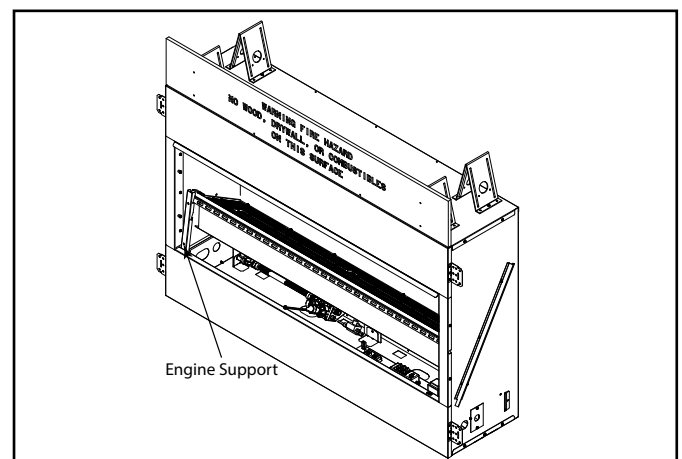

Figure 3.6 Control Cavity Location (Cut away front view only for location purpose, no direct access from front)
The IntelliFire Plus™ ODS intermittent pilot ignition system comes with a battery backup system that enables the system to operate in a power outage. The system offers seamless transition from household AC power to battery backup. A factory-installed battery pack is located in the control cavity of the appliance. See Figure 3.6. Battery longevity and performance will be affected by long term exposure to the service temperatures of this appliance.
1. Access the control cavity of the appliance. See Figure 3.6 for location. Make sure unit is off and cool. Lift the barrier screen off of the appliance. Remove the logs or stone if installed. Remove crushed glass media and deflection glass panel from hearth pan. Remove two (2) screws securing burner assembly to appliance, set aside. Lift the burner assembly and place the two engine supports, provided under the engine, against lower front space at the bottom of the face, and slide into the slots at the bottom of the engine assembly. See Figure 3.6.